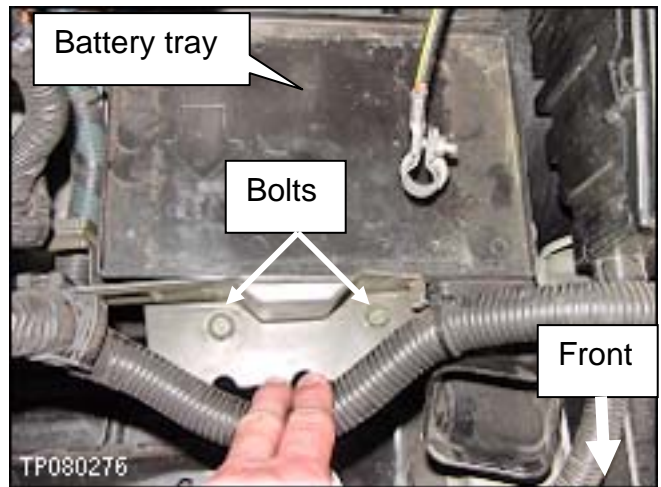

Figure 23
23. Install the 2 bolts shown in Figure 23.